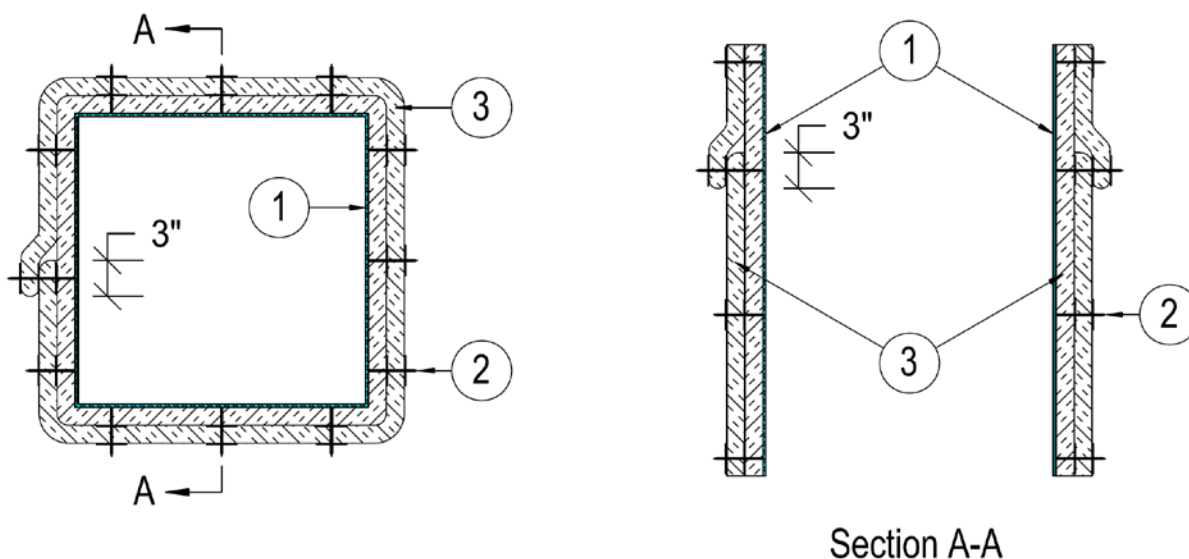

Figure 1. Plan and Section, Vertical Duct Condition D.
- 2. PINS:** Refer to Figure 1. Use steel impaling pins to secure the insulation. The pins are min. 12 GA, 6 in. long, with a 2 × 2 in., 30 GA galvanized steel base with a self-adhesive tape on the base. Use greater pin length when required to penetrate through multiple overlapping duct insulation (Item 3) joints. Secure pins to the ventilation air duct (Item 1) with the self-adhesive tape, supplemented with a single 1/8 in. stainless steel rivet through the pin base and the duct.